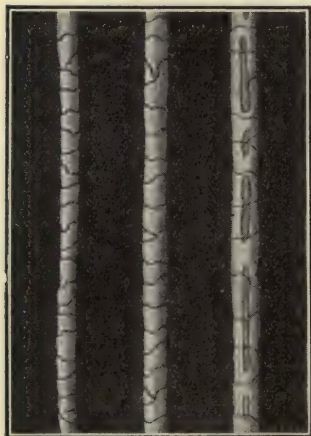

FIG. 53. — Wool fibers. 1. Alpaca. 2. Camel. 3. Cashmere. (Courtesy of Philadelphia Commercial Museum.)
**Woolen materials.**—Wool fibers (Fig. 53) come from sheep and goats; those fleeced from goats are used to make mohair and alpaca; those from sheep, to make all the other woolen materials familiar to us. Wool is the most valuable fiber in cold civilized countries. Fur is soft and warm and good as an outside covering; but it is rough and disagreeable when worn next to the skin.